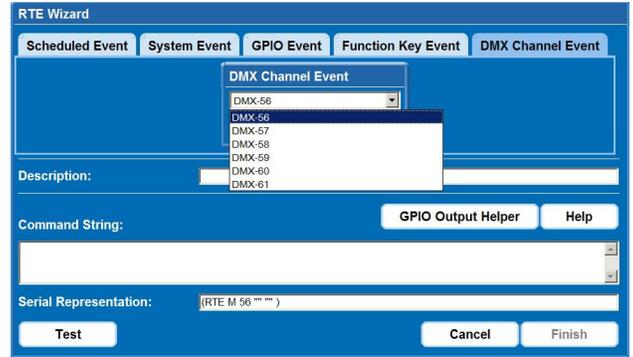

Figure B-22 DMX Channel Event
3. Select a **DMX** channel (DMX-56 to DMX-61) from the drop-down list as shown in **Figure B-22**. Refer to Section 3 Operation for detailed information.